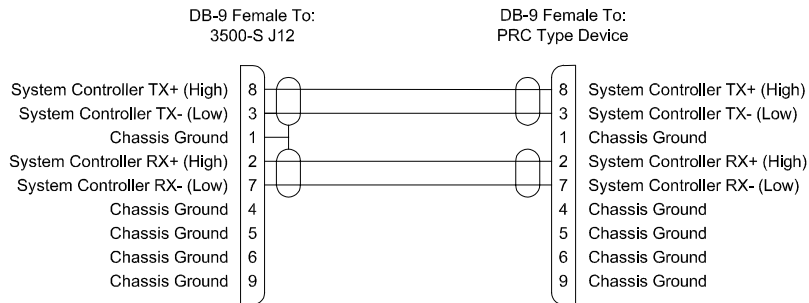

Figure 7. 3500-S RS-422 Serial Cable
- COM 3/PRC is the communications interface to a PRC type routing switcher system and is connected to a routing switcher with an AT Serial Modem cable (Part No. 81-9028-0400-0). If necessary, a cable up to 4000 feet in length may be fabricated in the field as shown in Figure 7.